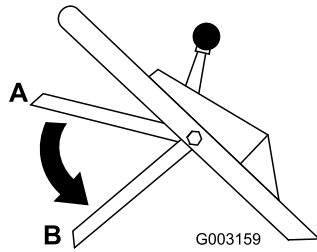

Figure 19
- Release the blade control bar; refer to position B in Figure 19. You should hear a “bang.” The blade should stop in 3 seconds.
- Move the blade control bar down to its lowest position (Position B in Figure 19).